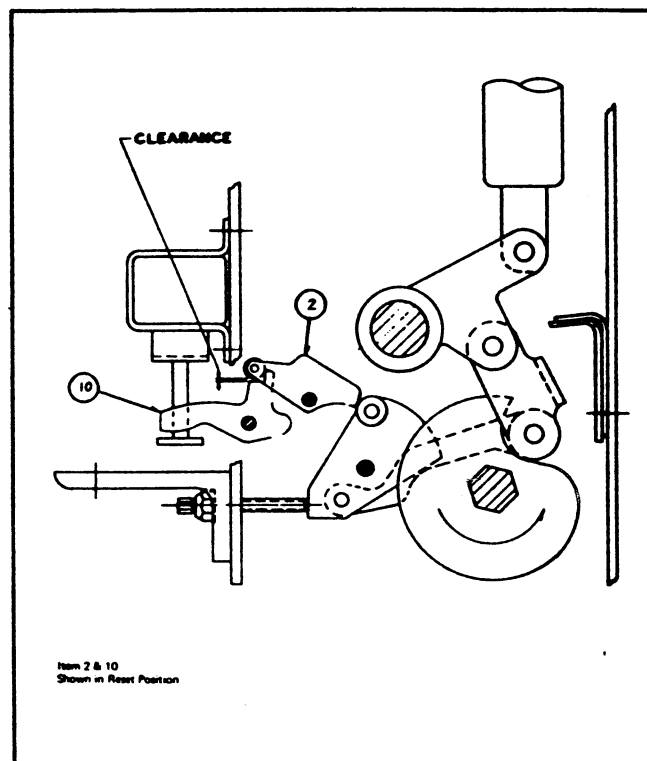

Fig. 8b Breaker Open and Spring Charged
1. Loosen locking nut (item 18).
2. Referring to Fig. 8B turn the tripping cam adjusting screw (Item 17) "in" - Clockwise - until the roller on the front end of the tripping latch (item 2) positively engages the latch surface of the tripping trigger (item 10) - zero clearance. Do not tighten beyond a nominal positive engagement.
4. Back the trip cam adjusting screw "out" VERY SLOWLY until the trip latch roller and tripping trigger just reset - (as shown in Fig. 8B except zero clearance). Then back the adjusting screw "out" one quarter turn additional. At this setting there will be a small but noticeable clearance between the roller and the tripping trigger.
c. After all adjustments have been made and the above tests have been successfully completed secure the adjustment by tightening the locking nut (item 18) while holding the tripping cam adjusting screw in its finally adjusted position.
d. The clearance (Fig. 8B) obtained on most breakers will be in the range .005 to .015 inches. (If a gap gage is used to check the clearance care must be taken to be sure the roller is not raised by insertion of the gage). See Par. 7 following.
a. With the breaker open and the closing spring discharged, charge the closing spring. The tripping trigger and trip latch roller should freely assume the reset position with clearance as shown on Fig. 8B immediately after the closing spring is fully charged. If not, unlock the locking
7. The normal clearance between the tripping latch roller and the tripping trigger in reset position Fig. 8B will usually be in the range of .005 to .015 inches. This clearance may vary from breaker to breaker and may increase slightly as a breaker accumulates operations. It is desirable to maintain the clearance within the stated range, but breakers with clearances of .032 inches and more have successfully operated. The stated range therefore should be considered as a practical guide. It is not a mandatory precision measurement requiring frequent readjustment.